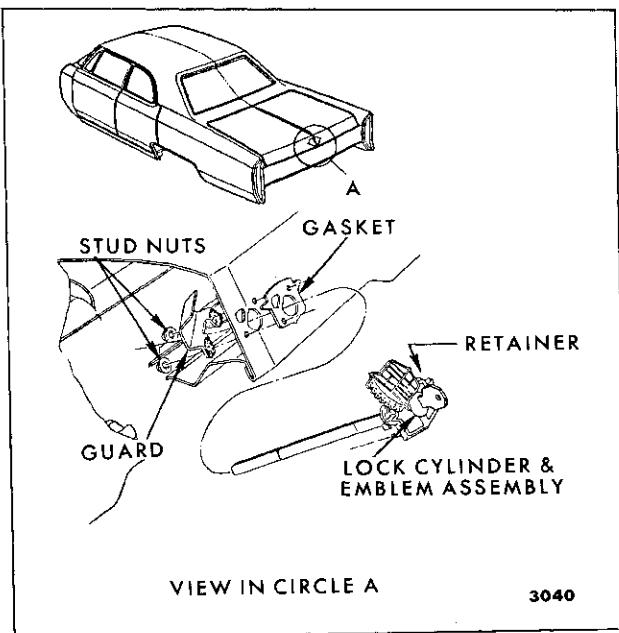

Fig. 8-15—Rear Compartment Lid Lock Cylinder Assembly — All Cadillac Styles
3. Remove guard through access hole, then remove compartment lid emblem and lock cylinder assembly from lid outer panel (Fig. 8-15).